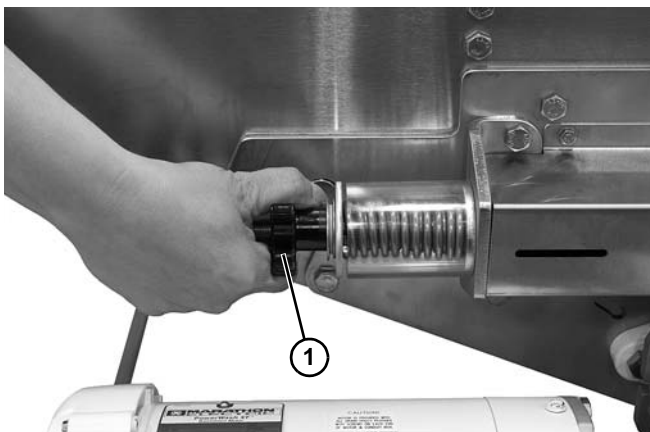

Figure 106
2. Rotate tension nut (Figure 106, item 1) on each side of the center drive counterclockwise to remove all tension on the belt.